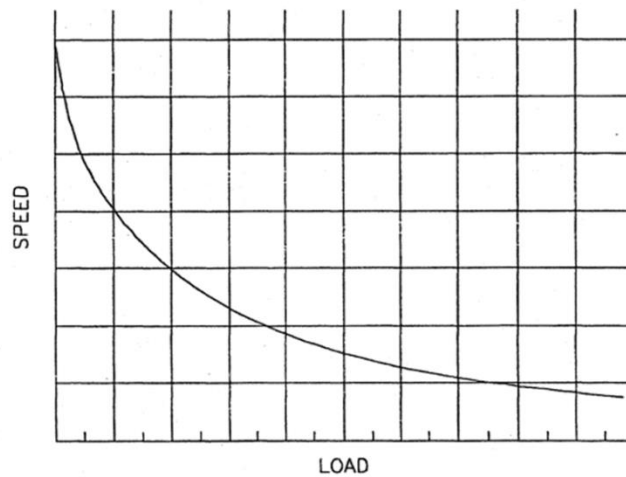

Figure 3 - Characteristic curve of a typical series universal motor.
5. The field coils and the armature are connected in series. When current passes through the motor, magnetic poles are formed by the field system and a corresponding magnetic field is formed on the armature. Interaction between the magnetic fields of the field poles and the armature cause the armature to rotate. The characteristic curve of a typical series universal motor is shown in Figure 3.